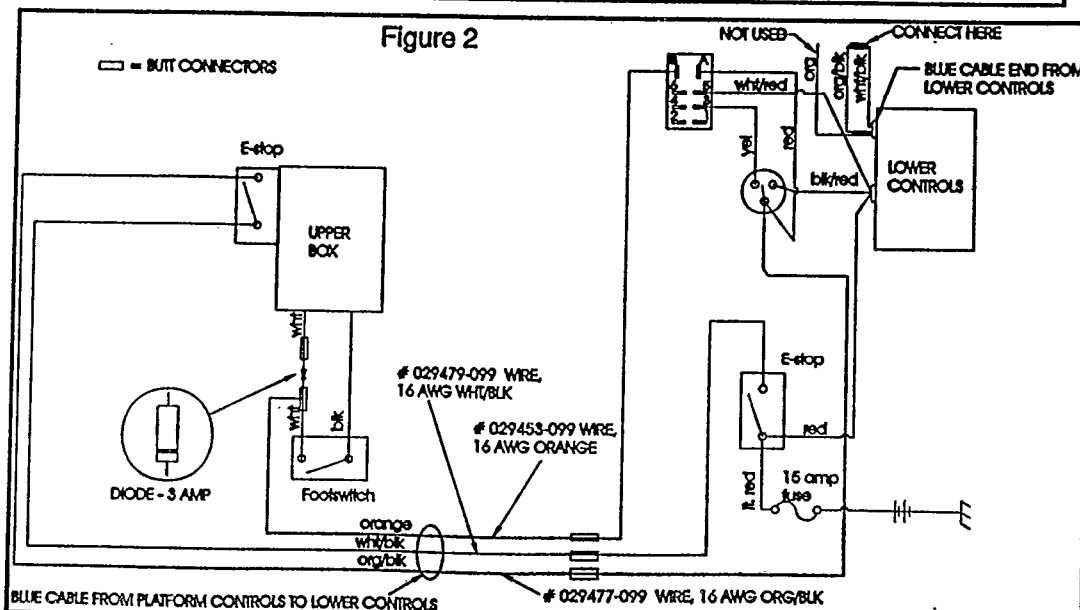

Figure 2
4. Splice together the orange wire of the blue cable and the white wire of the footswitch to the 3-amp diode (#029825-002) using butt connector (#026920-003). (The grey striped end of the diode should be facing the connection of the white and orange wires). Figure 2.
9. Cut off the orange, wht/blk, and org/blk wires from the blue control cable connector attached to the lower control box. See figure 2. Leave approximately two inches from the end of the connector.
11. Attach the supplied org/blk wire (#029477-099) to the org/blk wire control cable end that was cut in step 9 using butt connector (#029620-002). Figure 2.
12. Attach the supplied wht/blk wire (#029479-099) to the wht/blk wire control cable end that was cut in step 9 using butt connector (#029620-002). Figure 2.
13. Attach the supplied orange wire (#029453-099) to the orange wire control cable end that was cut in step 9 using butt connector (#029620-002). Figure 2.